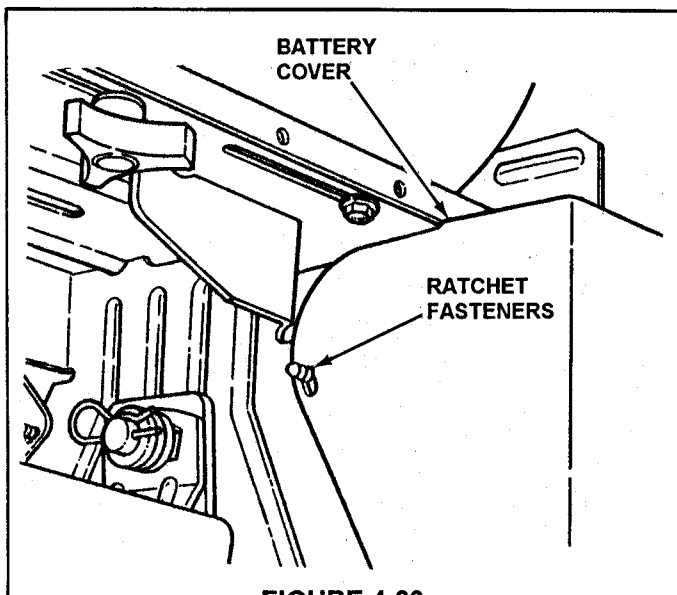

FIGURE 4.26
1. Carefully pull each side of battery cover away from ratchet fasteners and remove cover. See Figure 4.26.
3. Reinstall battery cover. Refer to Figure 4.26.